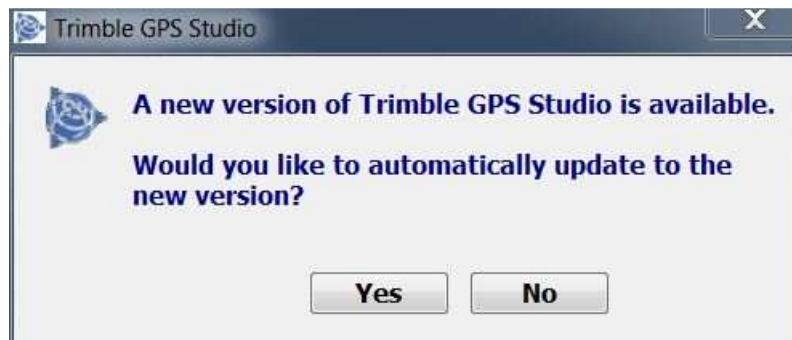

Fig. A2-1. Testing GPS: The answer is “NO”
- If this windows appears, asking to update the software (cf. Figure A2-1) answer “NO”.